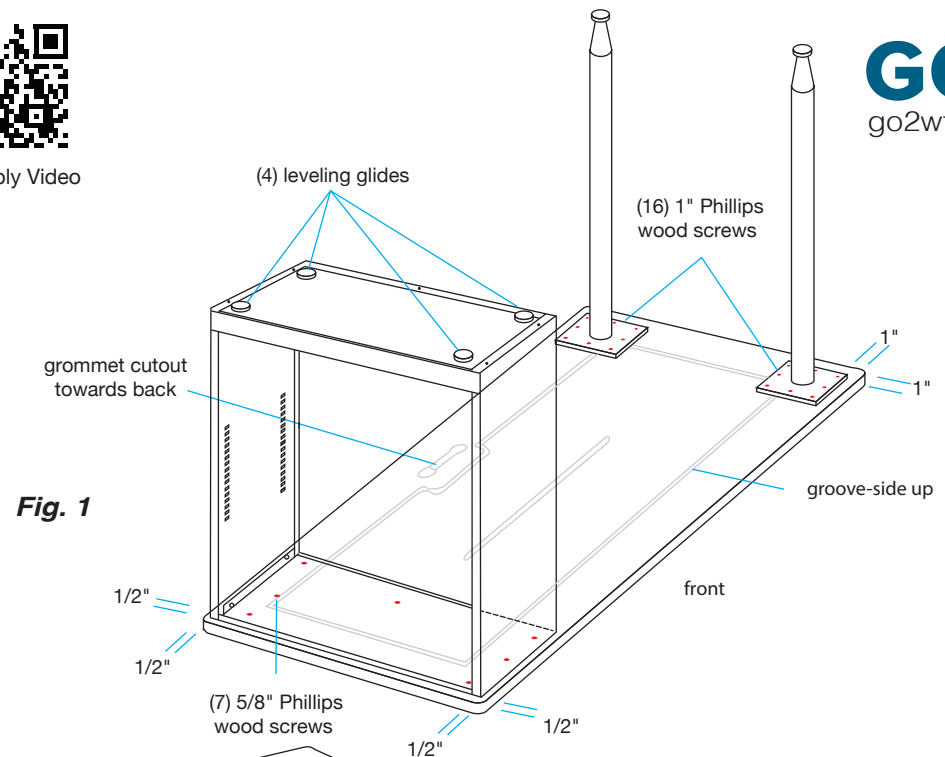

Fig. 1
1. Place work surface on a soft surface to protect from damage – groove-side up and grommet cutout towards back. *Fig. 1*
2. Remove all contents from bookcase including false floor and shelf. Carefully flip upside down onto work surface, with opening facing outward inset 1/2" from the front and sides. Align bookcase with pre-drilled holes and fasten using seven 5/8" Phillips wood screws. *Fig. 1*
3. Position each leg 1" inset on two sides and align with predrilled holes. Fasten leg using eight 1" Phillips wood screws. Repeat for other leg. *Fig. 1*
4. Install the four leveling glides in the bottom of the bookcase, turning by hand. *Fig. 1*